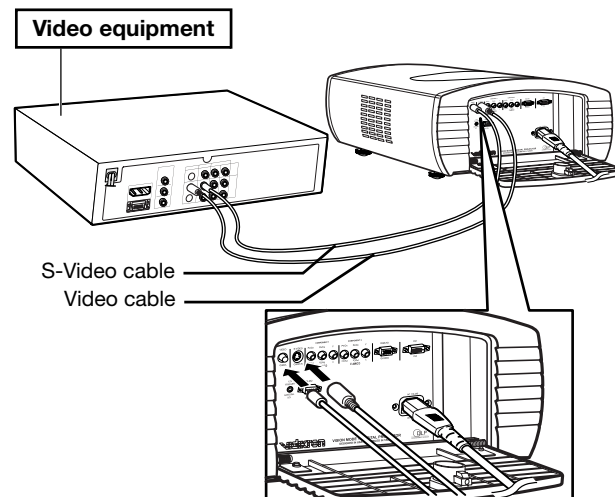

**Figure 3-11. Composite and S-Video Connections**
**Composite/S-Video Connections:** The Vision 10/12 has S-Video and composite video inputs for connecting a VCR, camcorder, laser disc player or DVD player; see Figure 3-11.